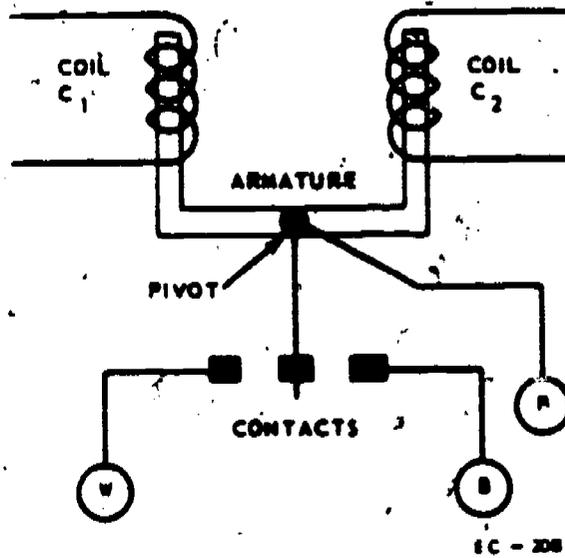

Figure 32. Diagram of a Balancing Relay
2. Motor Circuit: The series-90 motor consists of a reversible capacitor-type motor unit and a balancing relay. Figure 32 illustrates how a balancing relay is constructed. The motor is started, stopped, and reversed by the SPDT contacts of the balancing relay. The relay consists of two solenoid coils and a U-shaped armature. The armature is pivoted in the center and each leg extends into the hollow core of each solenoid coil. A contact arm is fastened to the armature in such a manner that one or the other of the two stationary contacts may be engaged as the armature is moved back and forth on its pivot. When the relay is in a balanced condition, as shown in figure 32, the contact arm floats between the two stationary contacts and the motor is at rest.